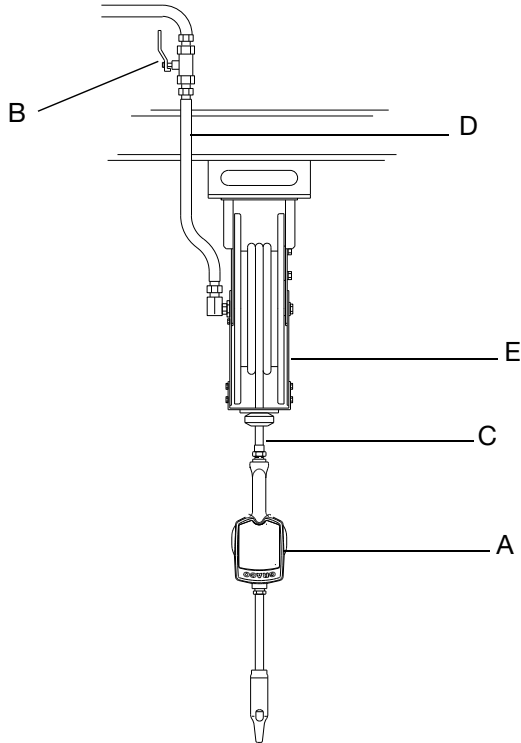

FIG. 1
The installation shown in FIG. 1 is only a guide for selecting and installing system components. Contact your Graco distributor for assistance in planning a system.
3. Close the shut off valve (B) (FIG. 1, page 6).